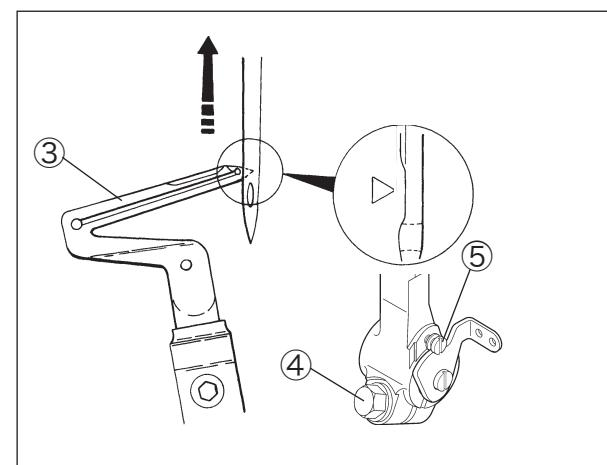

Fig. 2-5
1. After checking the needle heights, tighten screw ① of the needle bar bracket. (Refer to page 2 "2.1.1 Height of needle" )
3. Once the front-and-rear position of the lower looper has been adjusted, check the distance between the needle and the lower looper, then tighten screw ④ in Fig. 2-5.
4. Apply the liquid packing to the thread of the screw ② when tightening it.